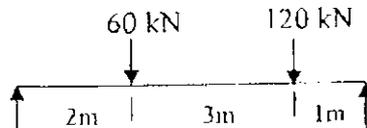

Fig. 5. (Qn. 14 (a))
14. (a) Obtain the deflection under the greater load for the beam shown in fig. 5 using the conjugate beam method.